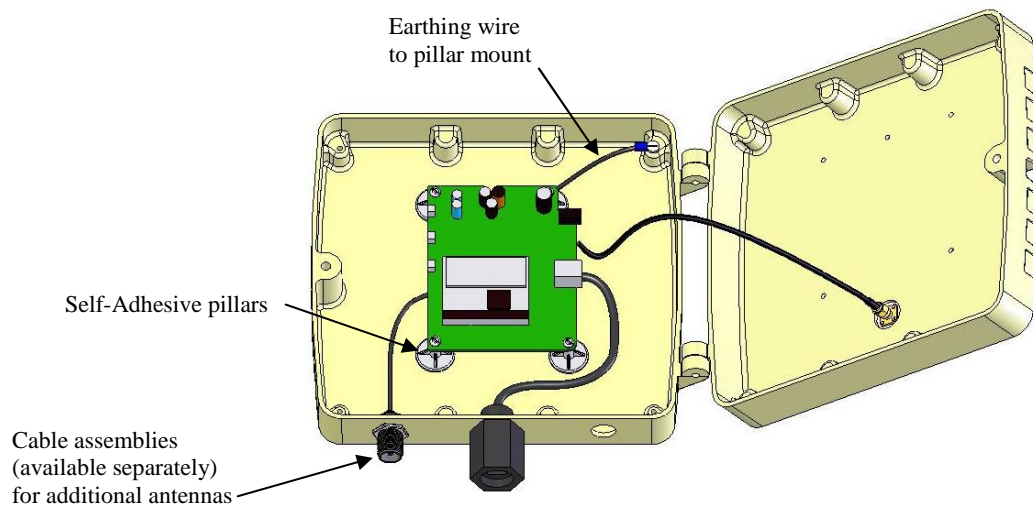

Figure 1. Using pillars to secure electronics (typical setup)
3. Mount the electronics using the plastic pillars as in **figure 1**. (Hint: Secure mounting pillars **with earthing wire** to electronics and attach necessary cables **BEFORE** sticking down the electronics and ensure the inner surface of the enclosure is clean and grease free)